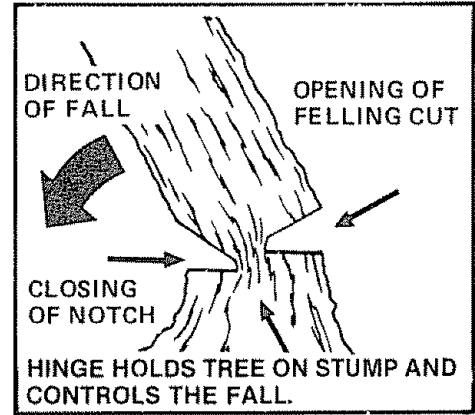

Figure 29
- c. Leave enough uncut wood between the felling cut and the notch to form a hinge Figure 29.